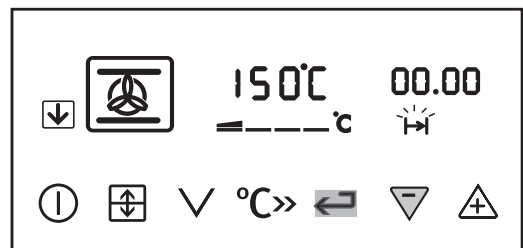

Fig.12.
- i) To cancel an automatic programme press the Time Selector button () until the 'Cook Time' indicator neon () flashes. Press the decrease control () until the display reads 00.00 as Fig. 12.